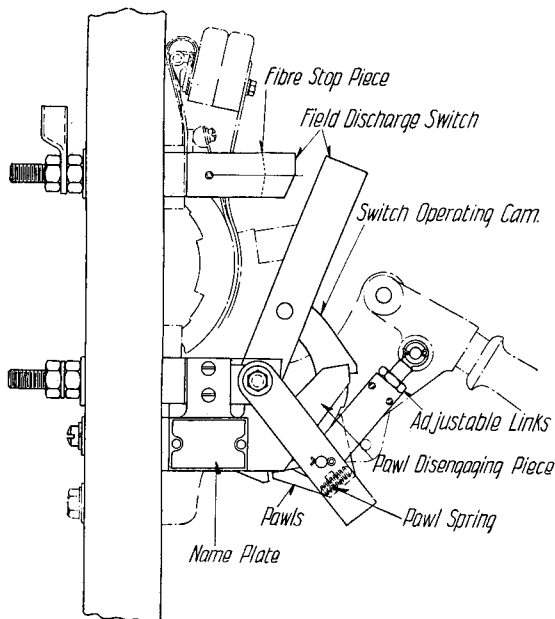

FIG. 16—FIELD-DISCHARGE-ATTACHMENT
**Field-Discharge Attachment (Figure 16)**—Field-discharge circuit-breakers are used to protect the shunt fields of large separately excited generators. The standard arrangement consists of a single-pole or two-pole, hand or sole-